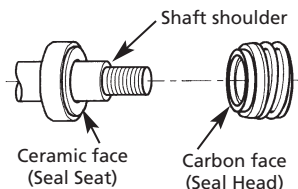

Figure 2 - Seal Installation
5. Wet the inside rubber portion of new seal head with a light coating of soapy water. Slide head onto motor shaft with sealing surface facing seal seat (see figure 2).